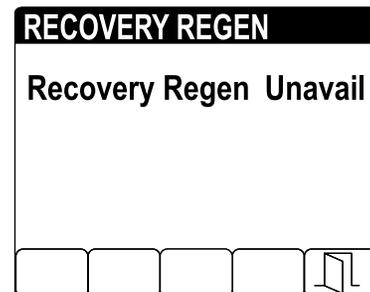

Figure 22
- If the engine computer has not requested a recovery regeneration and you select the RECOVERY REGEN option (Figure 22), Recovery Regen screen locks (unavailable).